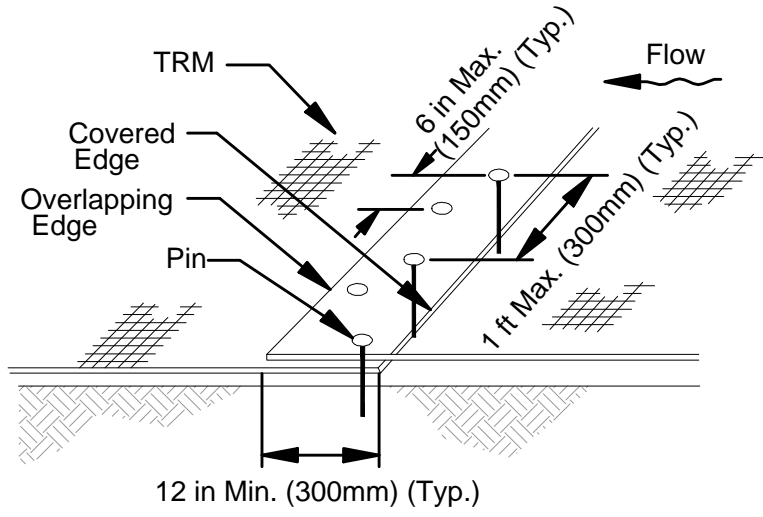

FIGURE 5: TRM
- B. Roll end overlap: 12 in (300 mm) minimum overlap with upstream mat on top. Secure with two rows of ground pinning devices staggered 12 in (300 mm) apart on 12 in (300 mm) centers (see Figure 5).